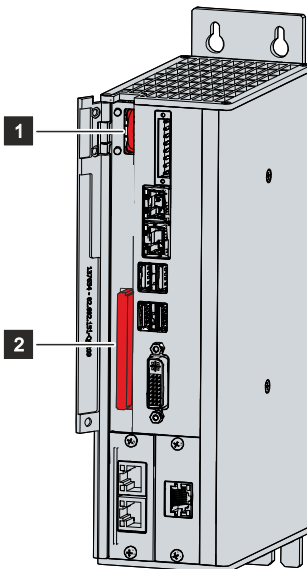

Fig. 19: Battery and storage media
You now have access to the battery (1) and storage media (2) (see fig. 19).